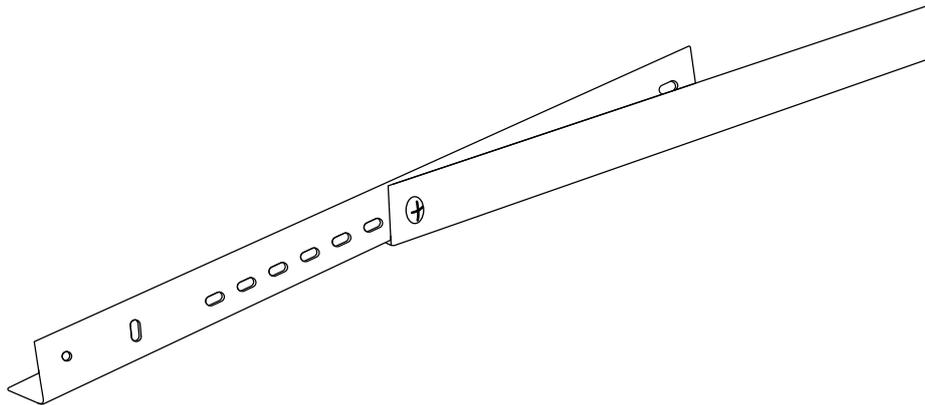

Figure 2
4. Once the height is determined, use 4 screws (H) and nuts (I) to combine the brackets, making sure to use the correct screw hole on each of the four short brackets. Figure 2